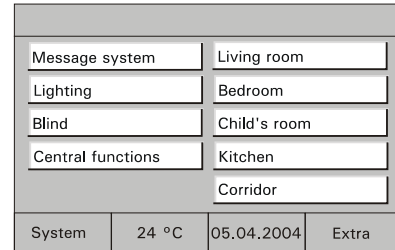

Fig.3
- The main page (Project start page, Fig. 3) has a sub-level with operating pages which can be displayed in two screen views.